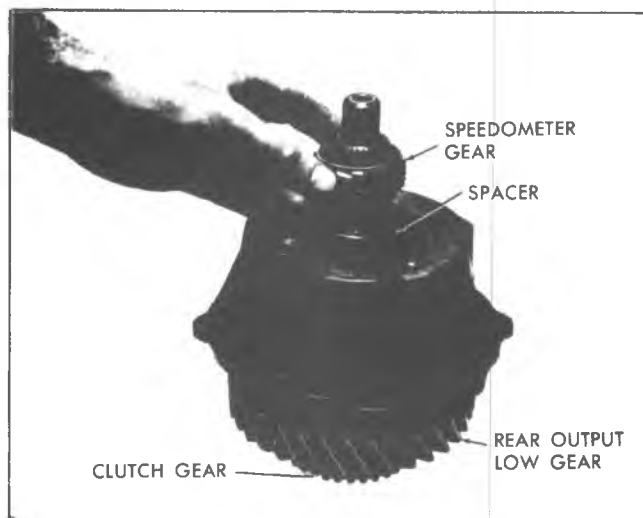

Fig. 7D-18R—Installing Rear Output Shaft Spacer and Speedometer Gear
6. Install housing onto output shaft assembly, install spacer and speedometer gear, then install bearing (Fig. 7D-18R).
7. Install rear bearing retainer seal using Tool J-21359 or J-22834-2 (Fig. 7D-19R).